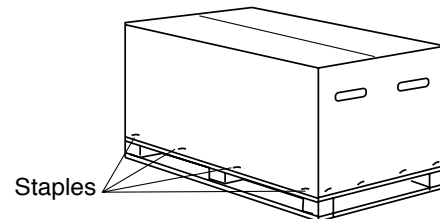
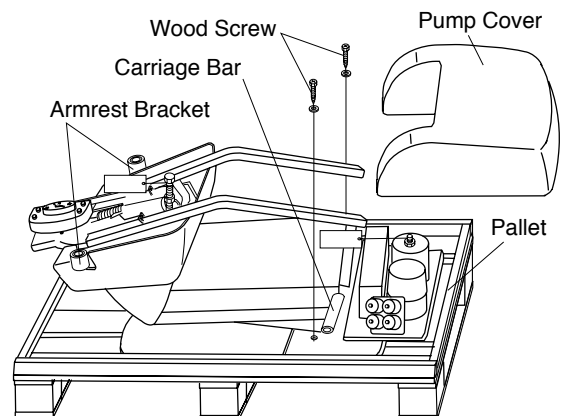

Fig.3-4-1 Base Section Carton
Fig.3-4-2 Removing Base Section from Pallet
- (1) Remove all the staples fixing carton to pallet, or cut the carton just above the stapled line, and remove the carton. (**Fig.3-4-1**)
- (2) Place the base section with pallet behind the planned location for chair.
- (3) Remove the pump cover and remove two wood screws from the base. (**Fig.3-4-2**)
- (4) Remove the base section from the pallet by holding the carriage bars and armrest bracket, then place it at planned location. (**Fig.3-4-2**)